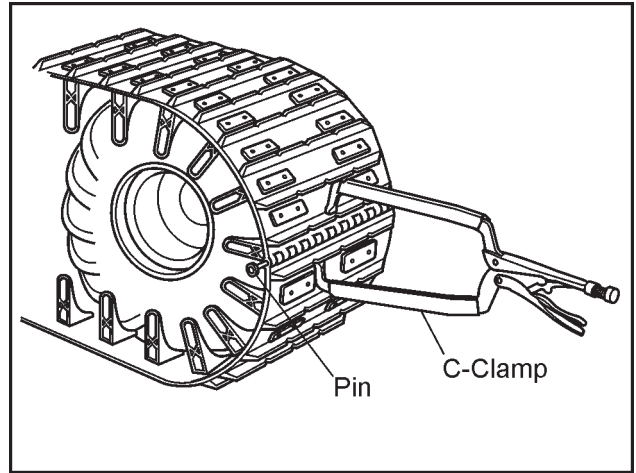

Figure 11-10. Securing with C-clamps.
9. Join the two ends of the track and secure them in place with C-Clamps as shown in Figure 11-10, so that the holes of the hinge lacing line up.